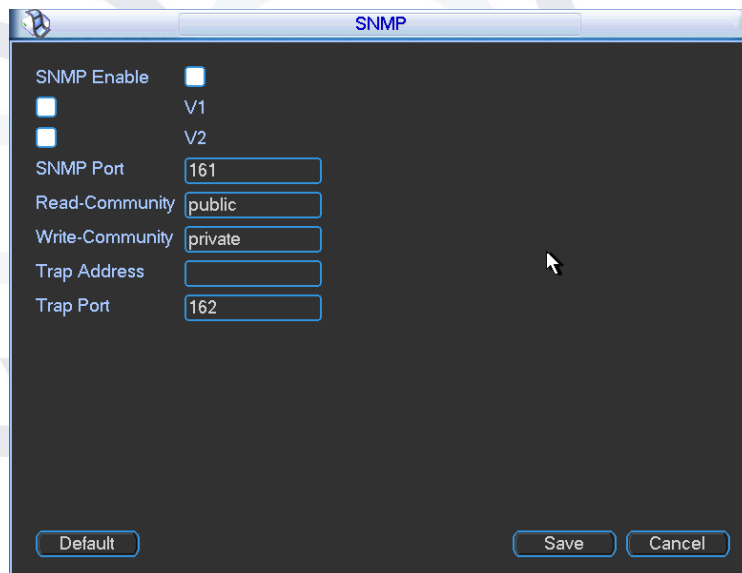

Figure 5-36
SNMP is an abbreviation of Simple Network Management Protocol. It provides the basic network management frame of the network management system. The SNMP widely used in many environments. It is used in many network device, software and system. You can set in the following interface. See Figure 5-36.
- In Figure 5-36, check the box to enable the SNMP function. Input the IP address of the PC than is running the software in the Trap address. You can use default setup for the rest items.